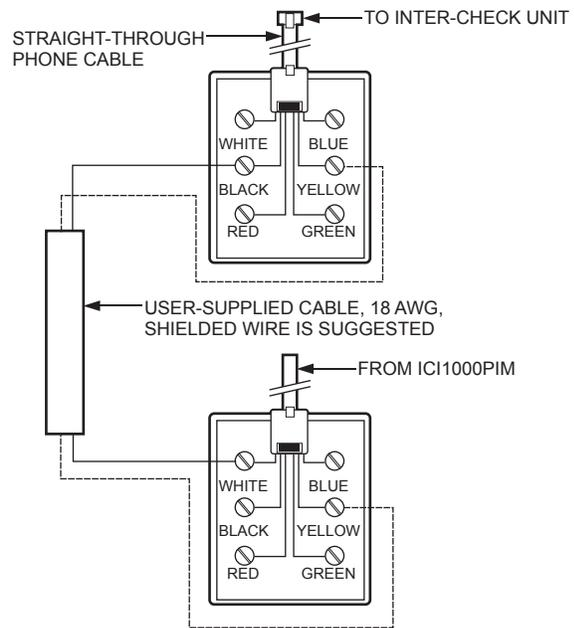

Figure 2. Configuration for Wiring ICI1000PIM Module
- b. If the Inter-Check and the PIM are more than 6 feet (1.8 m) apart, you must use the wiring kit. Refer to Figure 2. The wiring kit is supplied with the ICI1000SE and ICI1000SI.